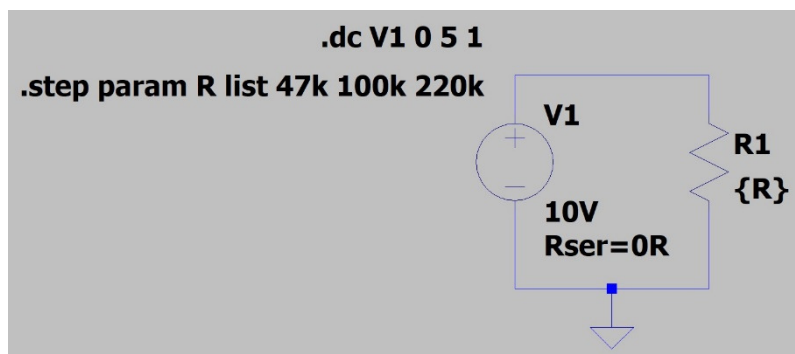

Figure 6: Parametric Sweep Setup
31) Place the text **.dc V1 0 5 1** that appears to the left of the schematic as shown in Figure 6, and click the left mouse button. Now, a DC sweep will be executed when simulation is run.
- 44) Click the **OK** button and place the directive under the `.dc` directive as shown in Figure 6 below